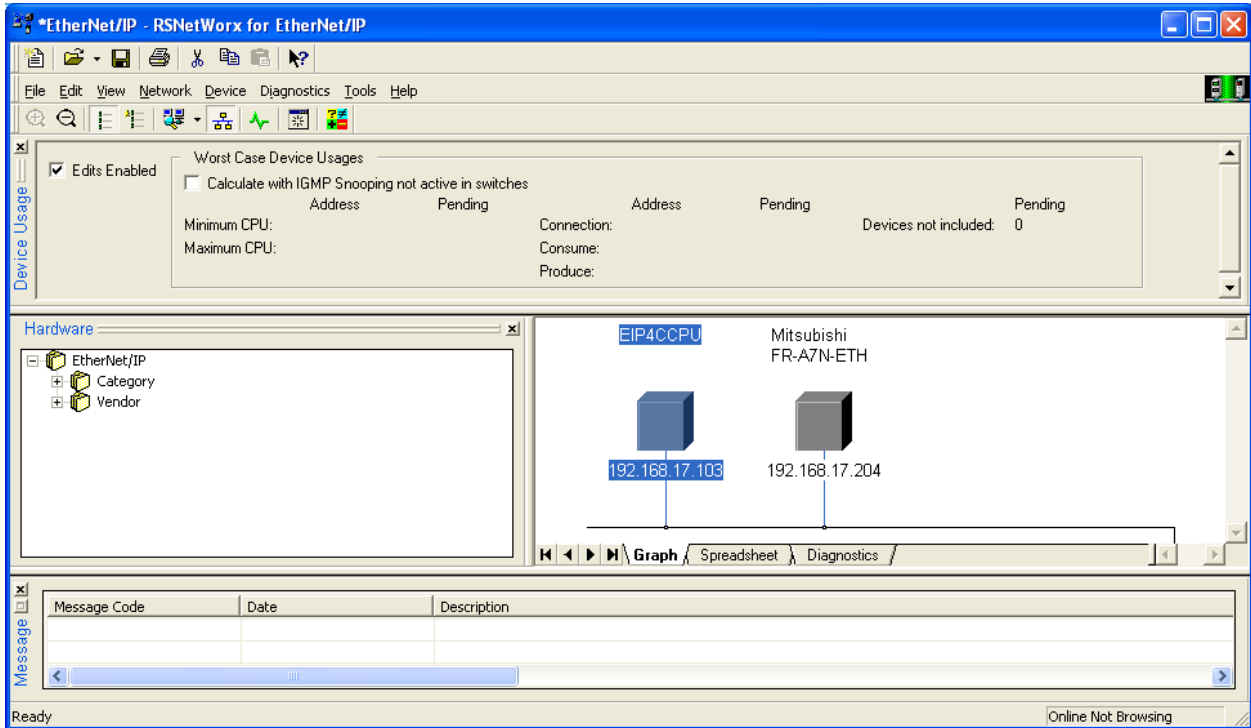

Figure 64: RSNetWorx Online
- c) Browse the EtherNet/IP network. Navigate to Network...Online. All nodes connected to the network should appear in the graph (see Figure 64).